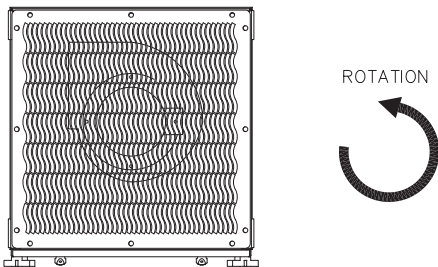

Fig. 3
4. Check blower for proper rotation direction (FIG 3). If the blower rotates backwards, interchange two of the motor supply connections (L1 and L2).